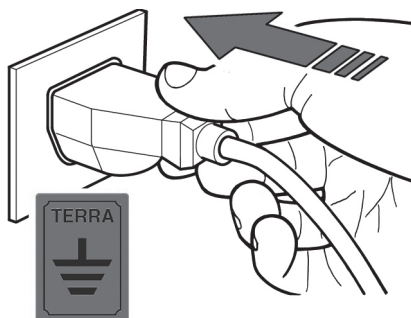

fig. 10
- It is imperative that the complete equipment is properly connected to an efficient earth connection (fig. 10).
- 2)** Insert the power plug into the socket provided by the customer (fig. 10), making sure that it has earth contact and that there are no multiple sockets connected .